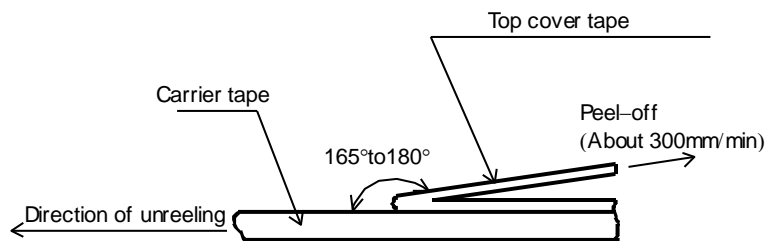
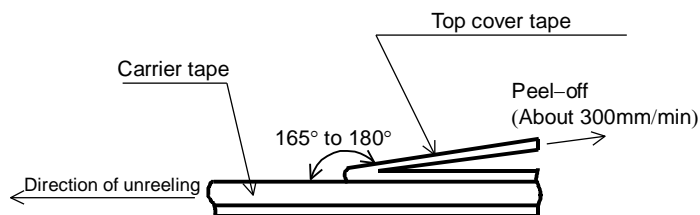

Figure-5
Figure-6
- 5). The peel strength of the top cover tape shall be within 0.1N to 0.5N on the test method as shown in the following FCC10, FHC10:Figure-5,FCC16,20,32, FHC16,20,32 : Figure-6.